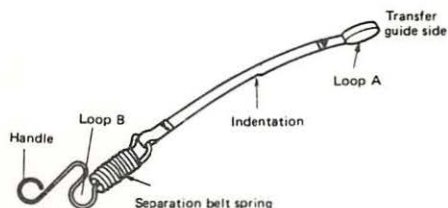

FIGURE 5-14
3. Open loop A on the separation belt with a screwdriver (Figure 5-14).